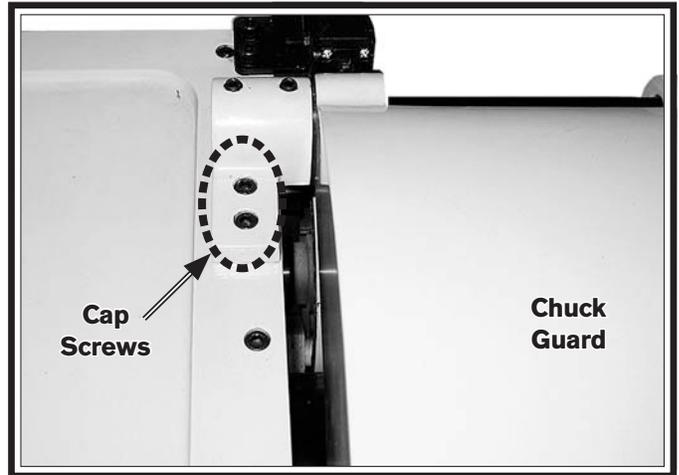

Figure 127. Location of cap screws securing the chuck guard.
4. Remove the two cap screws that secure the chuck guard to the top of the headstock (see **Figure 127**), then remove the guard.